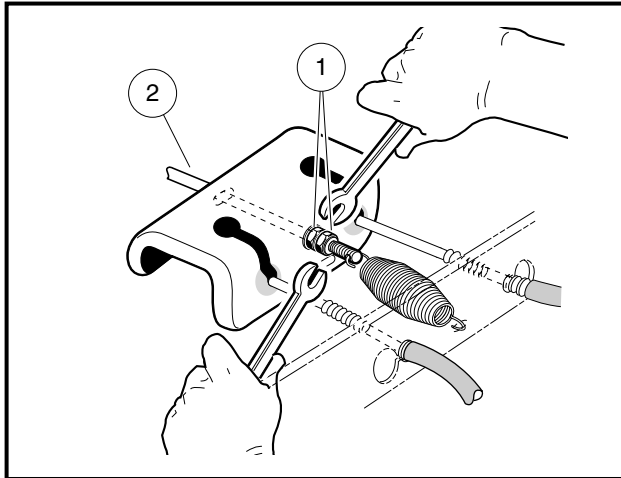

Figure 6-2 Loosen Equalizer Nut
2. Release park brake if latched and loosen equalizer retaining nuts (1) on equalizer rod (2) to slightly loosen brake cable (**Figure 6-2, Page 6-4**).